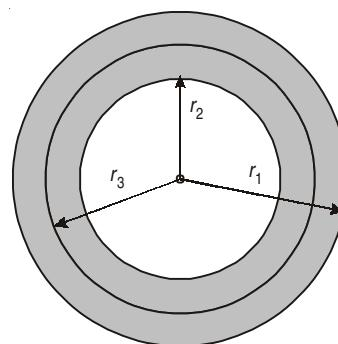

Fig. 10.13
- (i) The thick walled cylinder example as shown in Fig. 10.13, that there is a considerable variation in stress intensity in the wall of a thick cylinder subjected to internal pressure, with the tensile hoop stress being highest at the inner surface.